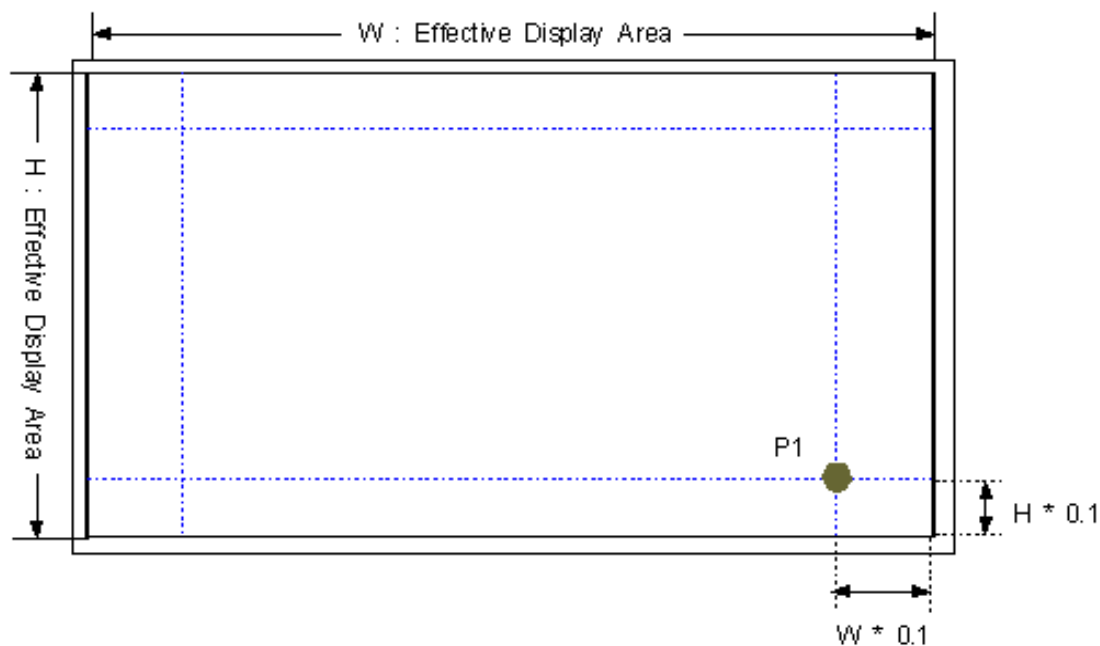

Figure-4. Measurement point
1. For mass production test purposes, it is recommended to measure just 1 point, P1 of Figure.-4 on display pattern of Fig.-3.
(5) Ambient Light : Dark Room (<2 lux)